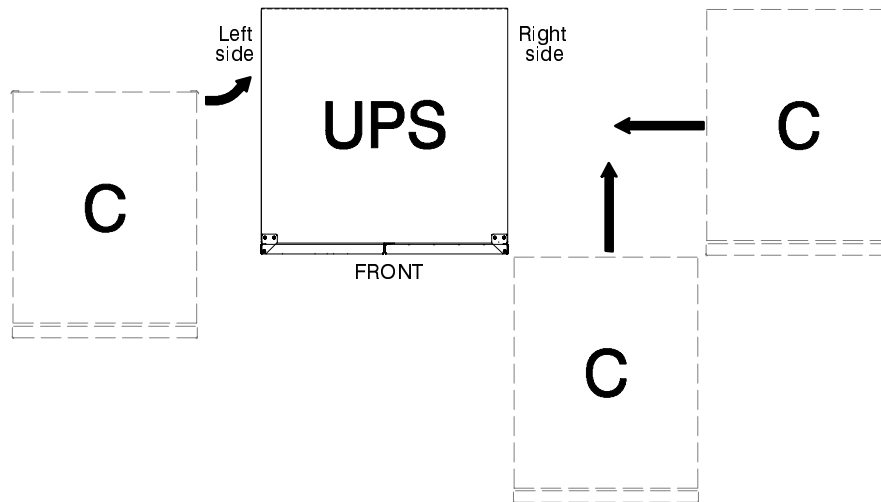

Figure 7. Joining an Optional Cabinet to the UPS
2. Roll the optional cabinet to a spot near the UPS, in any one of the three positions (C) shown in Figure 7. A PDM or input transformer cabinet should be joined to the left side of the UPS.